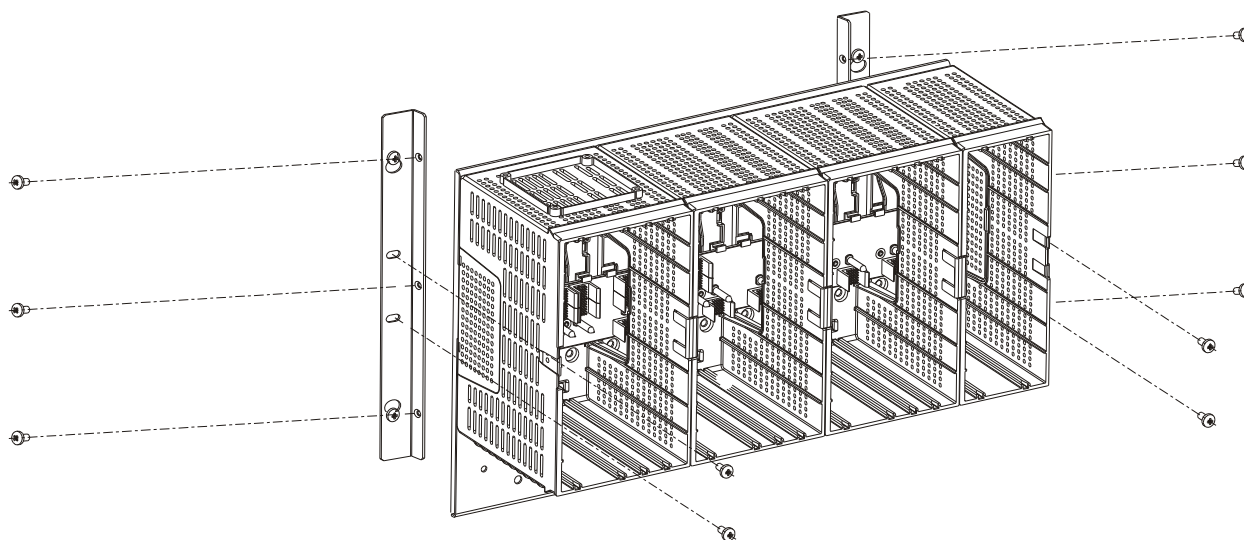

Figure 2-12 19" Frame Metal Back Installation
- 4) Fit the metal frame in between the two brackets, lining up the holes on the sides. (See Figure 2-12.)
- 5) Using three supplied M4 screws, secure the left bracket to the left side of the frame. (See Figure 2-12.) Using three more screws, secure the right bracket to the right side of the frame.
- 6) If you choose to further secure the 19" frame, screw two additional M5 screws (not supplied) into the two middle holes on the left bracket, as shown in Figure 2-12. Repeat for the right bracket.